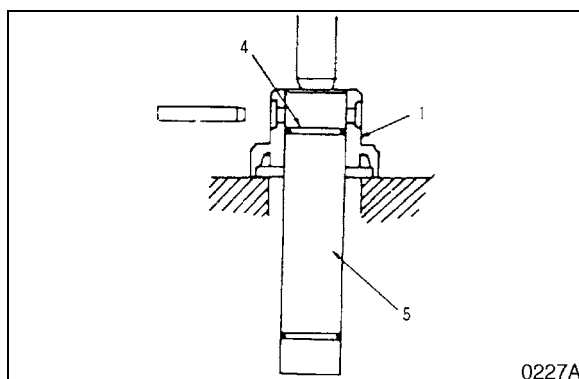

Figure 22
5. Use a press to separate the axle (5, Figure 22), O-ring (4) and bearing (1).